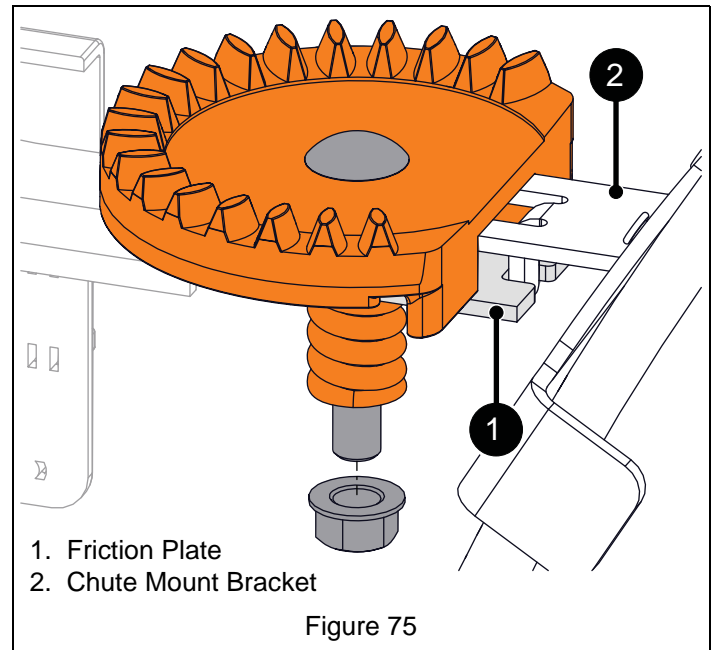

Figure 75
See Figure 75.
**IMPORTANT:** Make sure flat steel washer and friction washer are positioned between chute mount bracket and pedestal plate. See Figure 75.